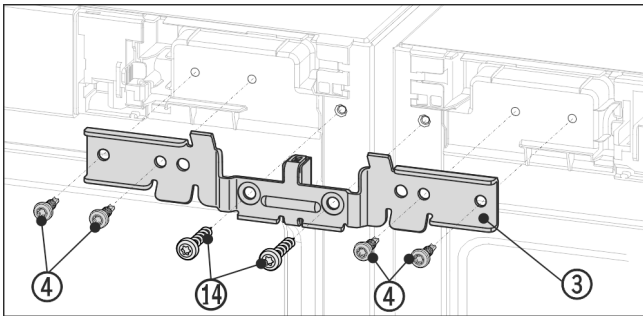

Fig. 12 Example illustration
- Slide the bracket *Fig. 12 (3)* onto the pins with the spacer between the appliances. Loosely screw in the brackets alternately right and left with four screws *Fig. 12 (4)* and the previously removed earthing screws *Fig. 12 (14)*.